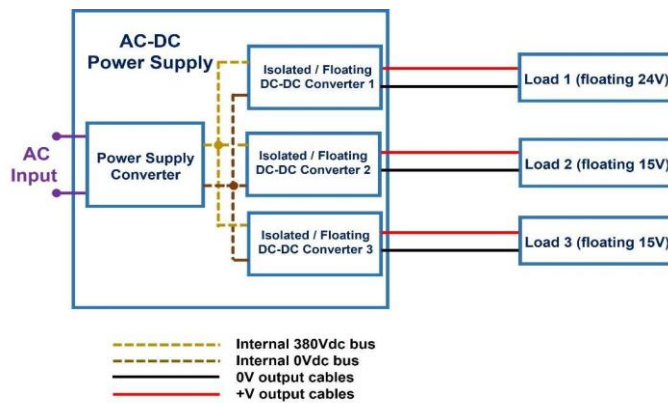
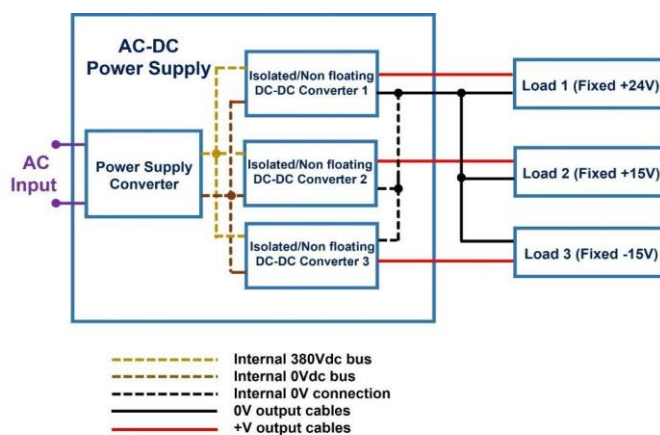

Figure 3a: Power supply with floating outputs
Figure 3b: Power supply with fixed outputs
**Flexibility:** Supplying a power supply with fully floating outputs enables the user to derive positive or negative voltages as required by their system. No pre-ordering is required. If +24V, +15V, and +15V is needed for one system and +24V, +15V, and -15V for another, the same part number can be used with a simple wiring harness change. (Figure 3a). With fixed polarity outputs, a second model would need to be ordered and stocked. (Figure 3b).